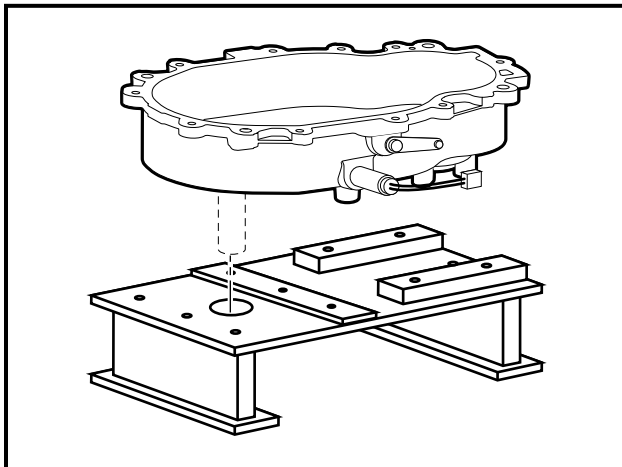

Figure 8-79 Position Back Half on Fixture
1. Position case (back half) onto the service fixture with the output shaft bearing port directly over the shaft hole in the fixture and the fixture positioned with the shaft hole to the left on the work bench. Clamp or bolt the fixture to a clean working surface or bench top (**Figure 8-79, Page 8-23**). See following **NOTE**.